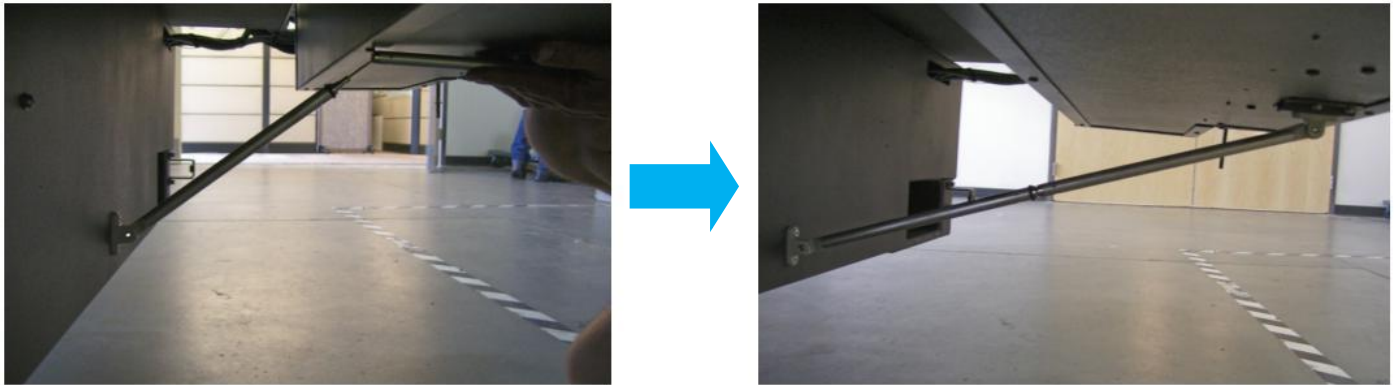

Figure 3 SSCA Support Rod Extend
4. Uncheck "Panel Clamps Closed" as shown in Figure 3. Visual Panel Clamper is under "Open" status.